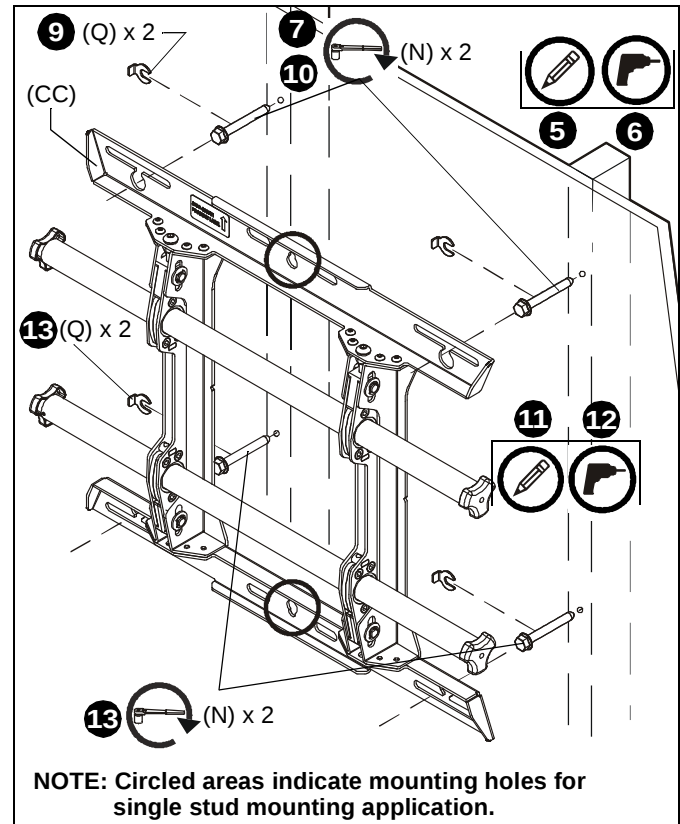

Figure 2
5. Using a level, mark the wall on each stud to attach the mount through the upper mounting slots. (See Figure 2)
7. Partially install two 5/16 x 2-1/2" flanged lag bolts (N) into pilot holes but do not tighten to wall.
8. Hang mount (Z), aligning upper mounting slots over lag bolts and adjust side-to-side for proper location.
9. Place one slotted washer (Q) over each flanged lag bolt. (See Figure 2)
10. Tighten lag bolts to secure mount (Z) to wall at upper mounting slots.